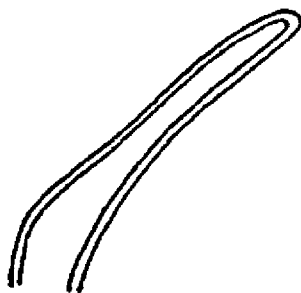

Fig. 3-22-1
- a. At the point in the rope where the bowline is needed, fold the rope in two. (Fig. 3-22-1)